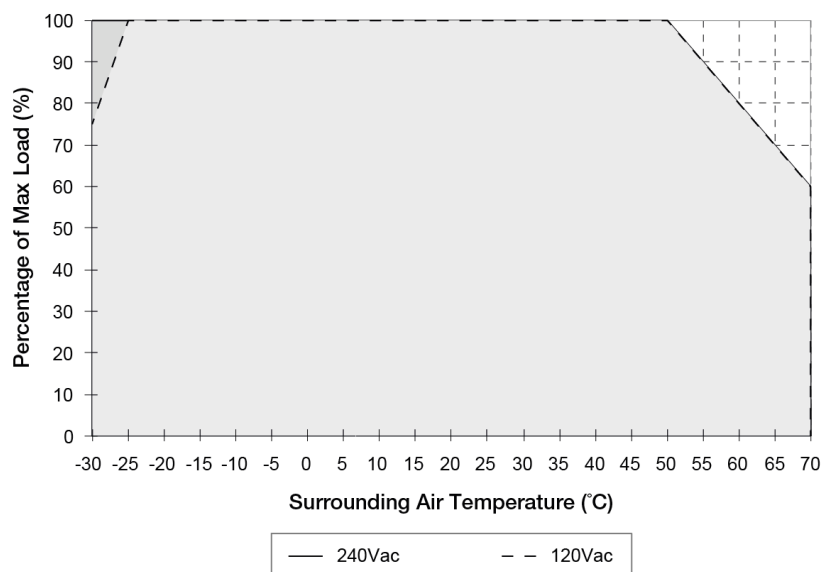

Fig. 1 De-rating for Vertical and Horizontal Mounting Orientation 120Vac
- Power supply components may degrade, or be damaged, when the power supply is continuously used outside the shaded region, refer to the graph shown in Fig. 1.